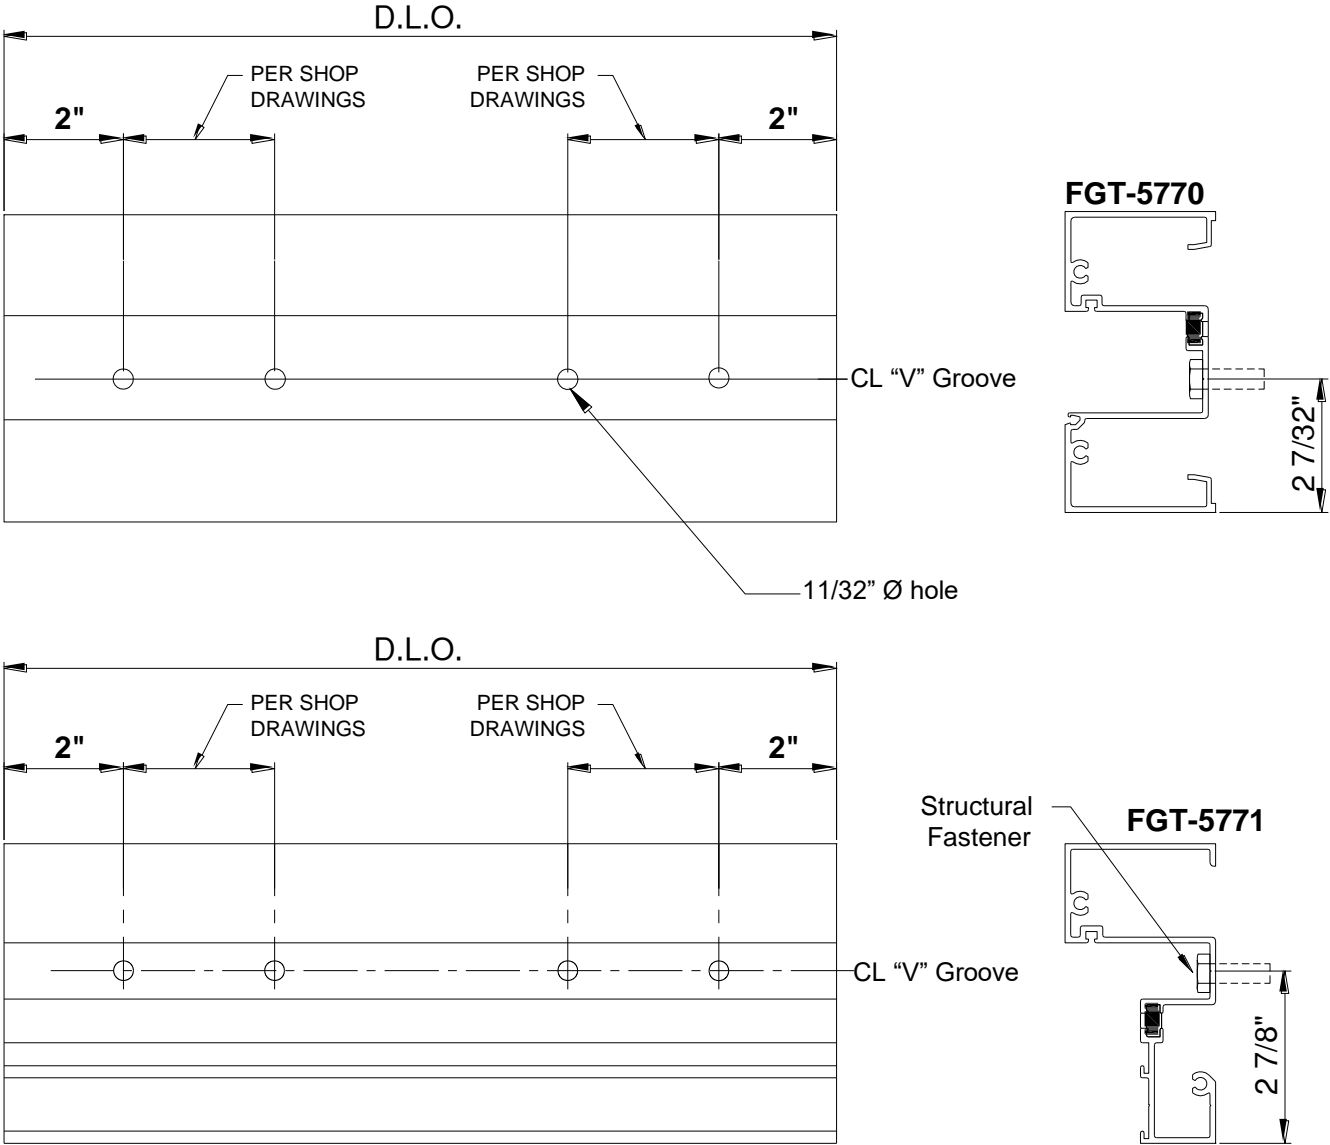

Figure 5: Head Fabrication
- 4.2 Prepare Head for anchor installation by placing pilot holes centered on V-grooves of metal, referencing Figure 5 for generic hole location. Verify quantity and locations per approved Shop Drawings.